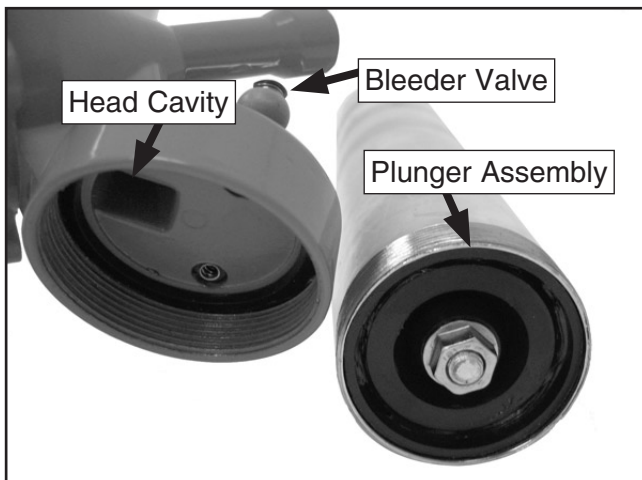

Figure 5. Grease locations and bleeder valve.
5. Without introducing bubbles, pack grease into the head cavity and plunger assembly until they are full (**Figure 5**).
4. Push the follower rod all the way forward while holding down the bleeder valve shown in **Figure 5**.